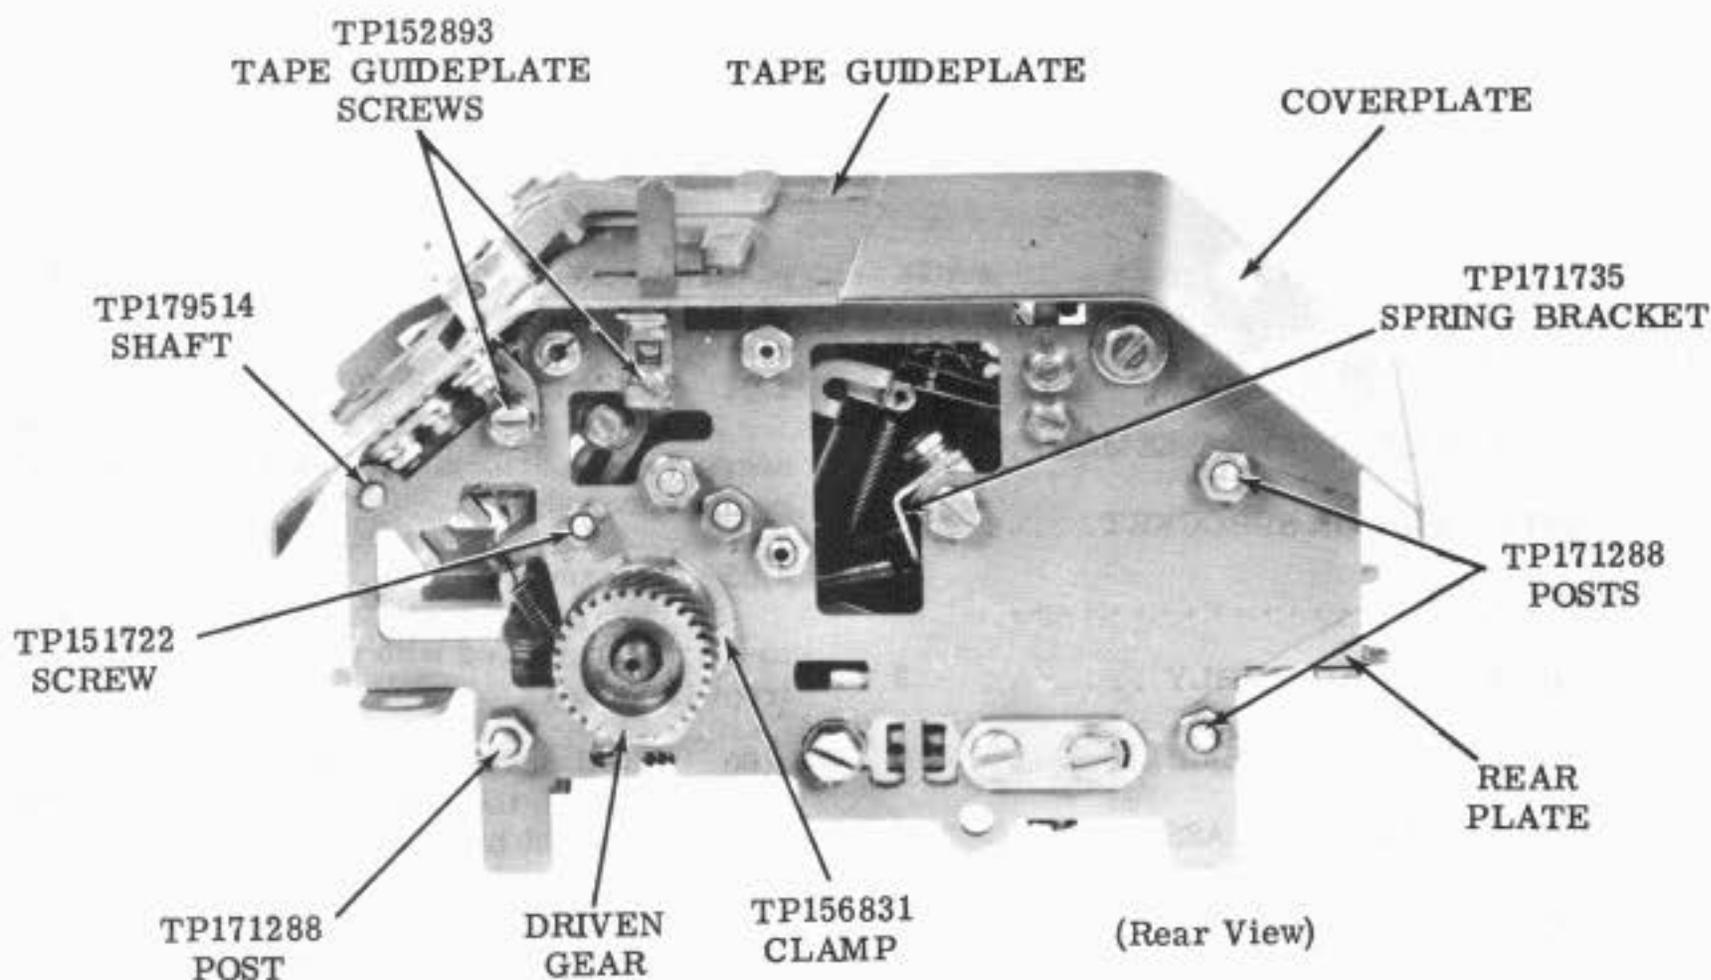
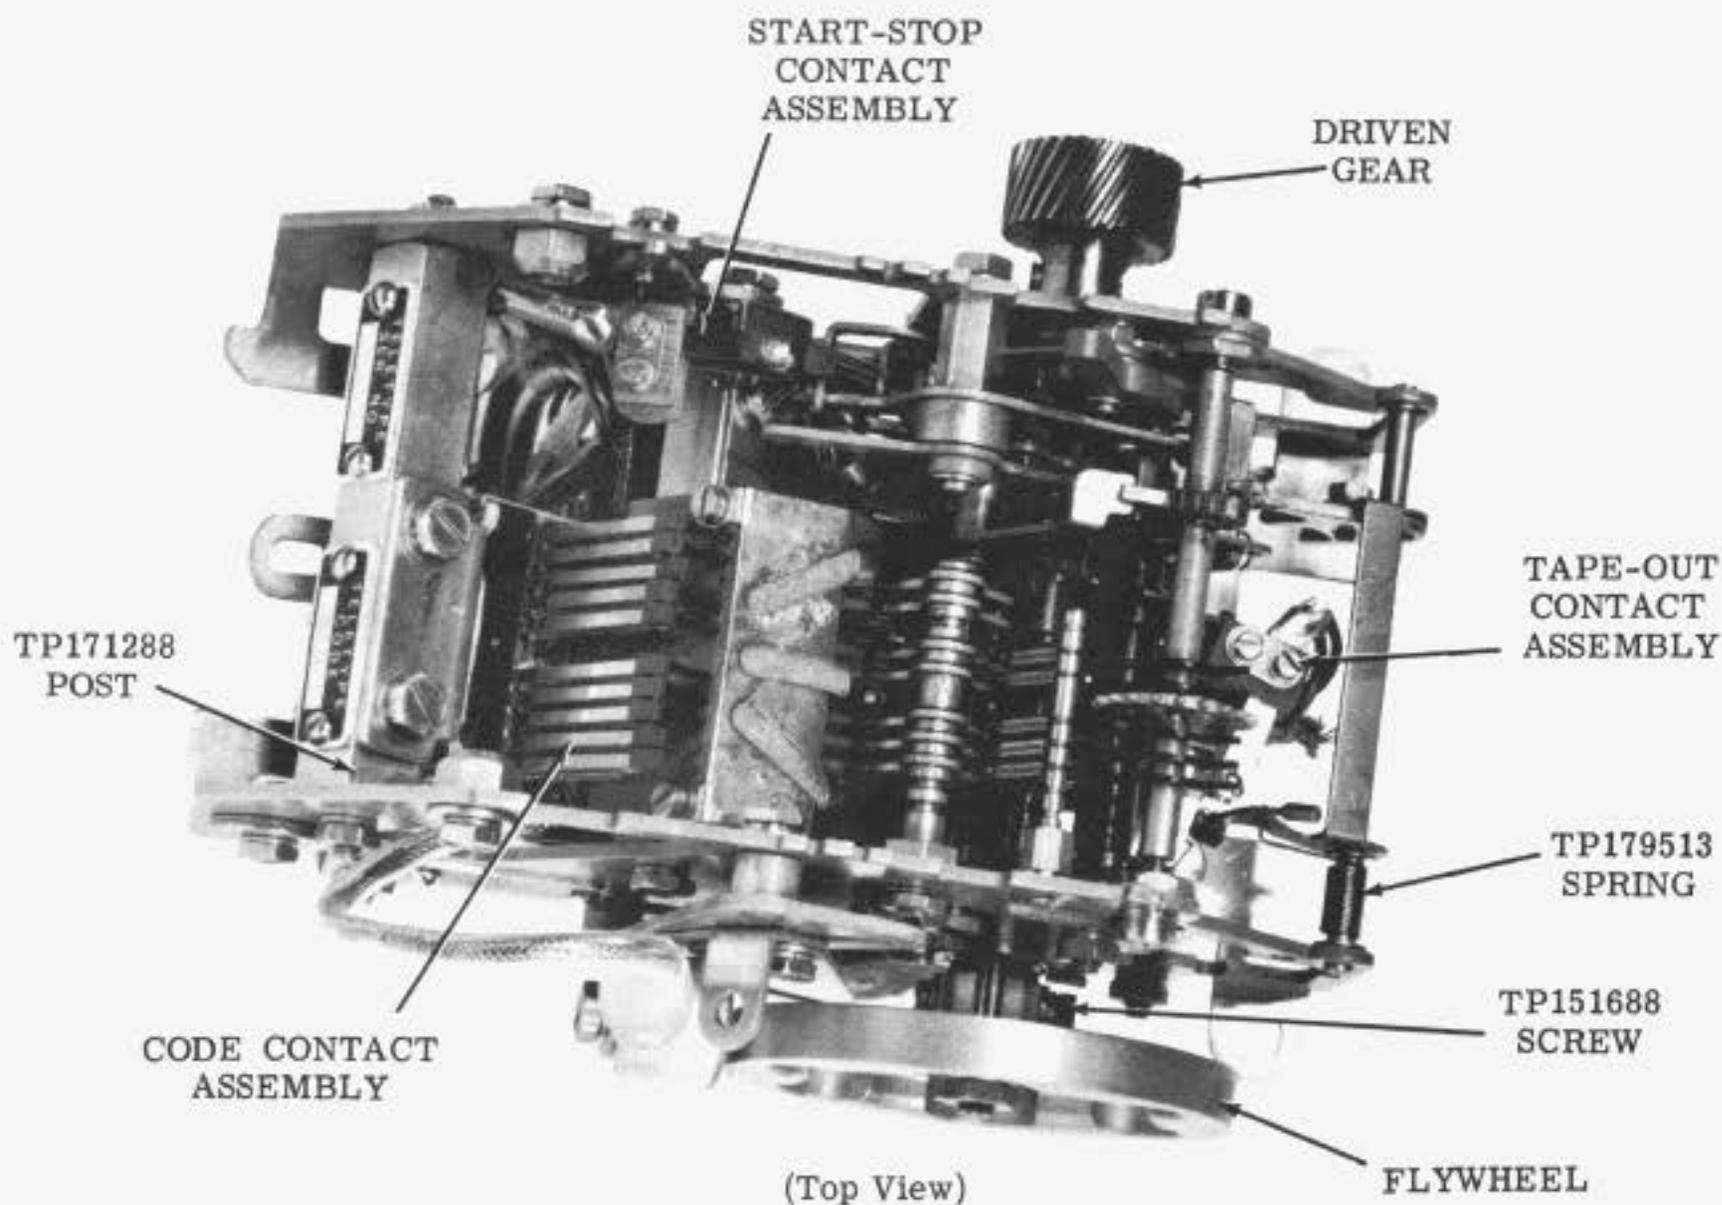

Figure 2 - Tape Reader Unit
Figure 4 - Tape Reader Unit (Plates Removed)
2.01 The driven gear (Figure 2) or driven sprocket is removed from the TP171731 main shaft as follows:
- (4) Remove the flywheel if so equipped.
- (5) Remove the TP156501 screw, TP2191 lockwasher, and the TP156831 clamp from the front plate.
- (6) Remove the TP151722 screw, the TP2191 lockwasher, and the TP156588 clamp from the rear plate (Figure 2).
- (7) Guide the main shaft outward, toward the TP174125 rear plate, so that the TP130499 bearing is approximately one inch from the rear plate.
- (8) If necessary, use a TP84020 bearing puller and remove the TP130499 rear bearing.
- (1) Unhook four springs from the TP171735 spring bracket (Figure 2).
- (2) Remove the three TP3598 nuts and TP2191 lockwashers that secure the rear plate to the three TP171288 posts (Figure 2).
(3) Remove the TP151722 screw, TP2191 lockwasher, and TP156588 retaining ring from the TP171732 rear plate (Figure 2).
(4) Remove the TP156740 screw and TP2191 lockwasher that secure the rear plate to the TP171707 post.
(5) On units so equipped, remove the TP119649 retaining ring from the TP179514 shaft (Figure 2).
(6) Unhook the TP171313 spring from the TP171898 bracket to release the magnet and rear plate assembly from the reader.
(7) Check that the stop lever is not engaged with the TP171252 feed pawl.
(8) On units so equipped, unhook the TP179513 torsion spring from the rear plate (Figure 4).
(9) Remove the rear plate assembly from the reader. If it is necessary to remove it completely, remove the operating magnet
- (1) Remove the two TP156740 screws, two TP2191 lockwashers, and two TP7002 flat washers that secure the code contact assembly to the TP171288 post. See Figure 4.
- (2) It is now possible to move the code contact assembly about two inches outside of the reader.
- (3) Unsolder and disconnect the cable assembly leads from the code contact assembly terminals.
(4) Remove the code contact assembly from the reader.
- (1) Unsolder and remove the cable assembly from the tape-out contact assembly (Figure 4).
- (2) Remove the two TP152893 screws, two TP3640 lockwashers, and two TP125011 flat washers from the TP171256 assembly mounting bracket.
- (1) Unsolder and disconnect the leads from the TP171237 start-stop contact assembly (Figure 4).
- (2) Remove the two TP152893 screws, two TP3640 lockwashers, and two TP125011 flat washers that secure the bracket to the rear plate.
- (3) Remove the TP171237 start-stop contact assembly from the reader.
2.15 To remove the coverplate, lift its left side and carefully pull it off the left side of the reader (Figure 2 and 3).
- (1) Loosen the four TP152893 screws securing the tape guideplate brackets to the front and rear plates (Figure 2).
- (2) Gently lift the tape guideplate off the reader.